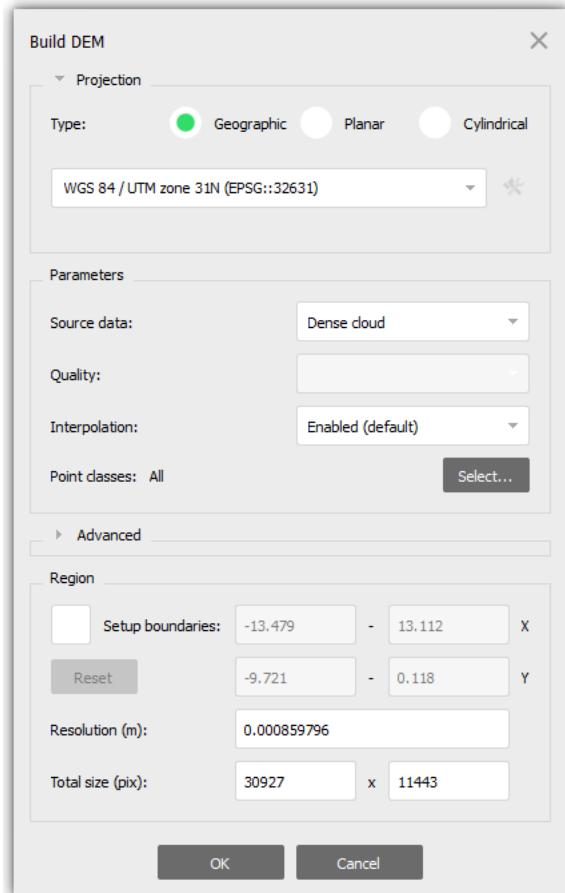

Figure 4.23 Screenshot of 'Build DEM' dialog with selected parameters.
1. Workflow → Build DEM (Figure 4.23)